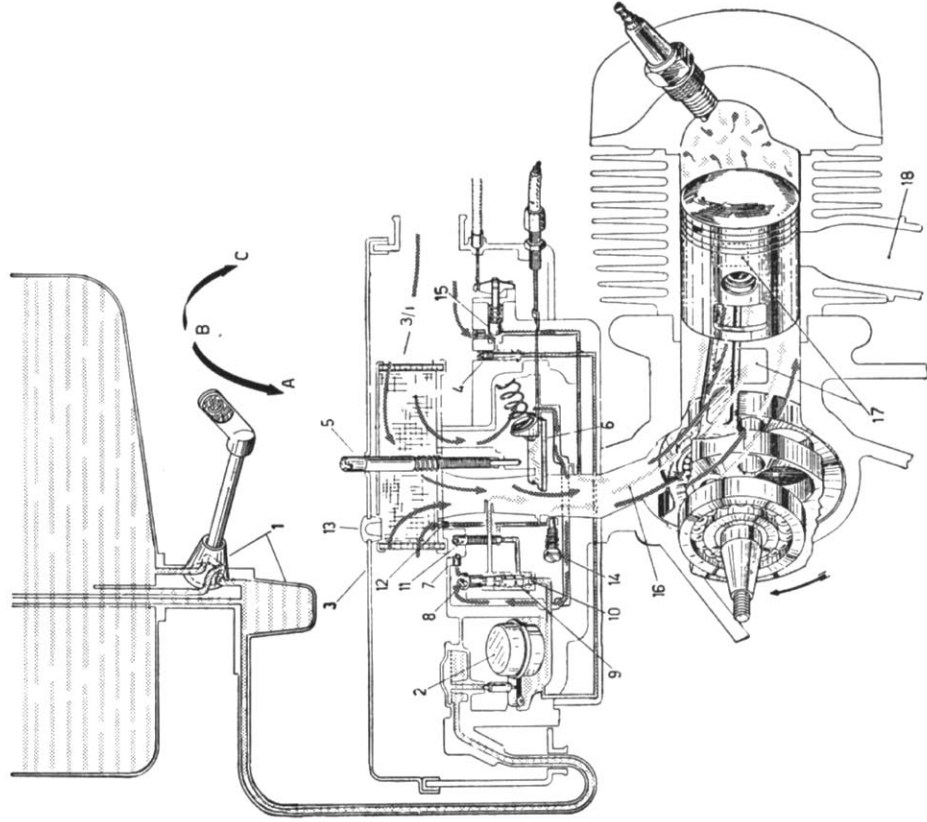

Fig. 9. Fuel supply and distribution diag.
For adjusting the idling turn the slow running adjuster screw (fig. 9, n. 5).
- On the carburettor body a set screw is provided for adjusting the throttle cable play (see fig. 9); this screw is to be reset **only if necessary** or on dismantling and reassembly operations.
- On the rear end of the air cleaner case, is a plugged hole. When this plug is removed the spring loaded mixture adjusting screw is accessible (Fig 9, n. 14). **We recommend that, unless unavoidable, owners should avoid resetting this screw.** Any alteration should preferably be entrusted to a Service Station.
hole on the air cleaner case (n. 13, fig 9). After said operation depress the kickstarter three or four times.